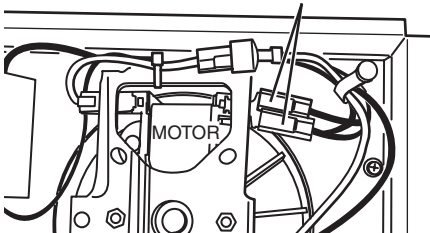

FIG. 11 -120VAC TO 240VAC CONVERSION
- 120 VAC to 240 VAC Conversion (FIGS. 11 & 12)**
- Conversión de 120 VCA a 240 VCA. (FIGS. 11 & 12)**